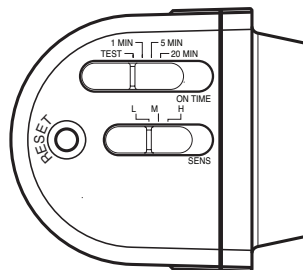

Figure 7
- If eave mounted, mount the fixture with sensor facing away from the house wall. Rotate the sensor so the controls on the bottom of the sensor (see Figure 7) face the ground.
2. Slide the sensitivity (SENS) switch to the “L” position and the ON-TIME switch to the TEST position (see Figure 7).
- Reset Button (see Figure 7) – Use a paper clip to press the RESET button for 15 seconds to reset the light.